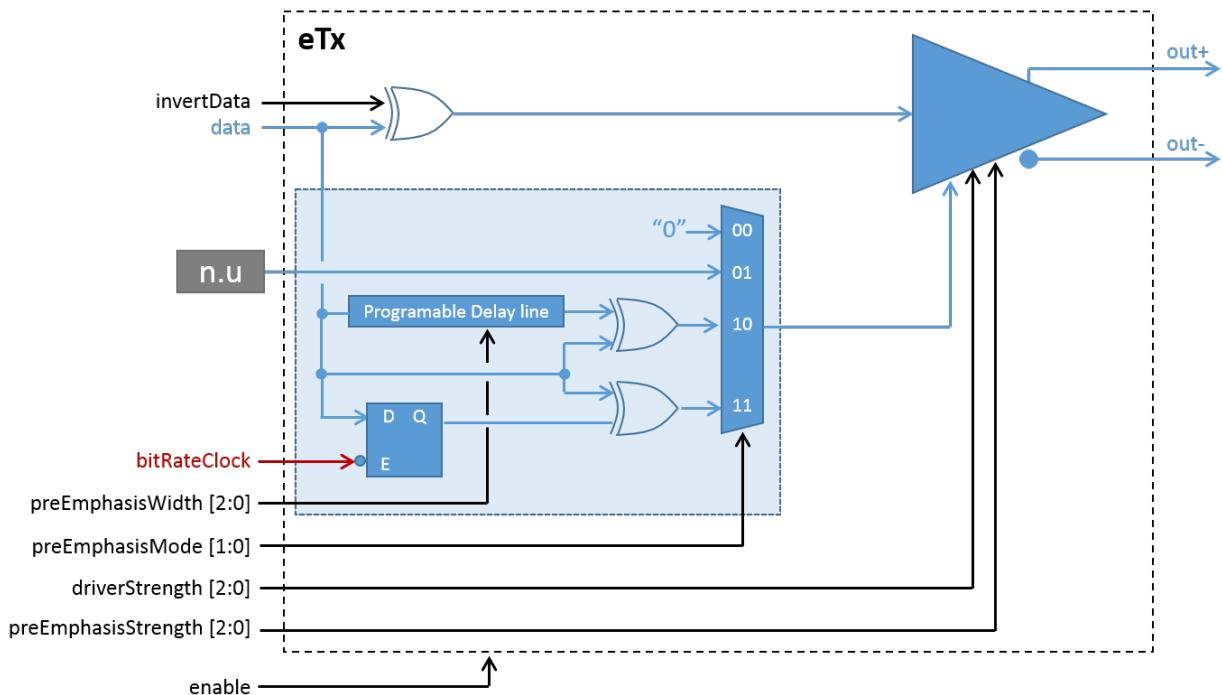

Fig. 7.5: eLink receiver
Fig. 7.5 illustrates the architecture of the IpGBT eLink driver. The same driver is used for the data outputs, up to 320 Mbps, and the clock outputs, up to 1.28 GHz. The driver has been designed to drive 100 Ohm loads with programmable strengths and controlled amounts of pre-emphasis. It has been designed to satisfy the CLPS standard previously described in this chapter. The driver offers many programmable features which include:
- *Enabling a clock driver:* In this case the signal "enable" in Fig. 7.5 becomes: `enable = (EPCLK[G]Freq[2:0] !~ 2'b00)`. That is, every time a clock output is set to work at any of the frequencies between 40 MHz and 1.28 GHz the corresponding driver is enabled. The clock frequency is controlled by bits 2:0 of registers [\[0x06c\] EPCLK0ChnCntrH](#) (page 150) to [\[0x0a4\] EPCLK28ChnCntrH](#) (page 187);
- *Enabling a data driver:* In this case it is possible that even if a given group is active that a specific channel within that group will not be used. Consequently it is necessary to explicitly enable the channels in use. Here, the signal "enable" in Fig. 7.5 becomes: `enable = EPTX[G][C]Enable`. These signals are controlled by registers [\[0x0a9\] EPTX10Enable](#) (page 190) and [\[0x0aa\] EPTX32Enable](#) (page 190); Notice that, if the mirror function is not enabled, for a given data rate only the channels indicated in table ePortTx \(downlink\) data rates (page 48) can be enabled. If the mirror function is enabled for a given group it is possible to enable all the channels in that group. The mirror function is controlled on a group basis by signals `EPTX[G]MirrorEnable` in register [\[0x0a8\] EPTXControl](#) (page 189) (Bits 3:0).
- *Clock driver strength:* For clock drivers the driving strength is set by the signal "driverStrength[2:0]" in Fig. 7.5 with $\text{driverStrength}[2:0] = \text{EPCLK[C]DriveStrength}[2:0]$. These signals are controlled by bits 5:3 of registers [\[0x06c\] EPCLK0ChnCntrH](#) (page 150) to [\[0xa4\] EPCLK28ChnCntrH](#) (page 187);
- *Data driver strength:* For data drivers the driving strength is set by the signal "driverStrength[2:0]" in Fig. 7.5 with $\text{driverStrength}[2:0] = \text{EPTX[G][0]DriveStrength}[2:0]$. These signals are controlled by bits 2:0 of registers [\[0x0ac\] EPTX00ChnCntr](#) (page 191) to [\[0xbb\] EPTX33ChnCntr](#) (page 202). For the EC channel $\text{driverStrength}[2:0] = \text{EPTXEcDriveStrength}[2:0]$, these signals are controlled by bits 2:0 of registers [\[0x0ab\] EPTXEcChnCntr](#) (page 190);
- *Clock driver pre-emphasis strength:* For clock drivers the driving strength is set by the signal "preEmphasisStrength[2:0]" in Fig. 7.5 with $\text{preEmphasisStrength}[2:0] = \text{EPCLK[C]PreEmphasisStrength}[2:0]$. These signals are controlled by bits 7:5 of registers [\[0x06d\] EPCLK0ChnCntrL](#) (page 150) to [\[0xa5\] EPCLK28ChnCntrL](#) (page 188).
- *Clock driver pre-emphasis timing:* The pre-emphasis pulse width is controlled by two parameters (Fig. 7.5) the timing **Mode** and the **Pulse Length**. The "Mode" allows to select between no pre-emphasis, pre-emphasis with "clock timed" pulse duration (1/4 of the clock period) or "self timed" where the pulse width can be programmed from 120 ps up to 960 ps. Notice that the "clock timed" mode is not valid if the clock output is set to 1.28 GHz and that in the "self timed" mode the pulse width should never be programmed to exceed 1/2 clock period. The pre-emphasis mode is selected by the signals $\text{preEmphasisMode}[1:0] = \text{EPCLK[C]PreEmphasisMode}[2:0]$ that are controlled by bits 4:3 of registers [\[0x06d\] EPCLK0ChnCntrL](#) (page 150) to [\[0xa5\] EPCLK28ChnCntrL](#) (page 188). When in the "self timed" mode, the signals $\text{preEmphasisWidth}[2:0] = \text{EPCLK[C]PreEmphasisWidth}[2:0]$ set the pulse width and are controlled by bits 2:0 of registers [\[0x06d\] EPCLK0ChnCntrL](#) (page 150) to [\[0xa5\] EPCLK28ChnCntrL](#) (page 188).
- *Data driver pre-emphasis strength:* For data drivers the driving strength is set by the signal "preEmphasisStrength[2:0]" in Fig. 7.5 with $\text{preEmphasisStrength}[2:0] = \text{EPTX[G][C]PreEmphasisStrength}[2:0]$. These signals are controlled by bits 7:5 of registers [\[0x0ac\] EPTX00ChnCntr](#) (page 191) to [\[0xbb\] EPTX33ChnCntr](#) (page 202). For the EC channel $\text{preEmphasisStrength}[2:0] = \text{EPTXEcDriveStrength}[2:0]$, these signals are controlled by bits 7:5 of registers [\[0x0ab\] EPTXEcChnCntr](#) (page 190);
- *Data driver pre-emphasis timing:* The pre-emphasis pulse width is controlled by two parameters (Fig. 7.5) the timing **Mode** and the **Pulse Length**. The "Mode" allows to select between no pre-emphasis, pre-emphasis with "clock timed" pulse duration (1/2 of the clock period) or "self timed" where the pulse width can be programmed from 120 ps up to 960 ps. Notice in the "self timed" mode the pulse width should never be programmed to exceed the bit period. The pre-emphasis mode is selected by the signals $\text{preEmphasisMode}[1:0] = \text{EPTX[G][C]PreEmphasisMode}[1:0]$ that are controlled by bits 4:3 of registers [\[0x0ac\] EPTX00ChnCntr](#) (page 191) to [\[0xbb\] EPTX33ChnCntr](#) (page 202). When in the "self timed" mode, the signals $\text{preEmphasisWidth}[2:0] = \text{EPTX[G][C]PreEmphasisWidth}[2:0]$ set the pulse width and are controlled by bits 6:4 and 2:0 of registers [\[0x0bc\] EPTX01_00ChnCntr](#) (page 203) to [\[0xc3\] EPTX33_32ChnCntr](#) (page 208). For the EC channel the pre-emphasis mode is selected by the signals $\text{preEmphasisMode}[1:0] = \text{EPTXEcPreEmphasisMode}[1:0]$ that are controlled by bits 4:3 of register [\[0x0ab\] EPTXEcChnCntr](#) (page 190). When in the "self timed" mode, the signals $\text{preEmphasisWidth}[2:0] = \text{EPTXEcPreEmphasisWidth}[2:1]$ set the pulse width and are controlled by bits 6:4 of register :ref:REG_EPTXCONTROL.